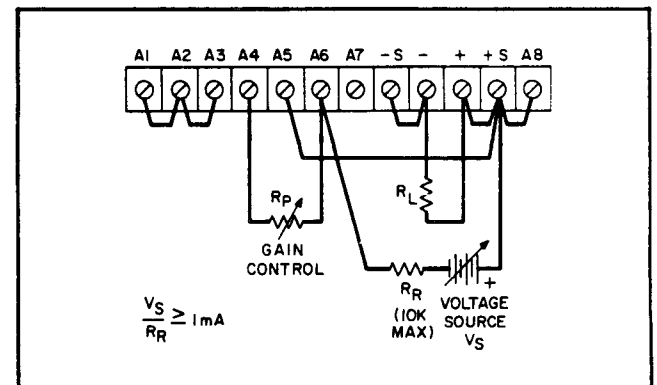

Figure 3-8. Remote Voltage Programming, Constant Current (Variable Gain)
3-58 Voltage Programming, Variable Gain (Figure 3-8). The power supply output current can be programmed with variable gain using an external voltage source by utilizing the strapping pattern shown in Figure 3-8. In this mode, the output current is found by multiplying the external voltage source (VS) by  $[R_p / (R_R \times K_p)]$ , where Kp is the constant current voltage programming coefficient as given in Paragraph 3-57.